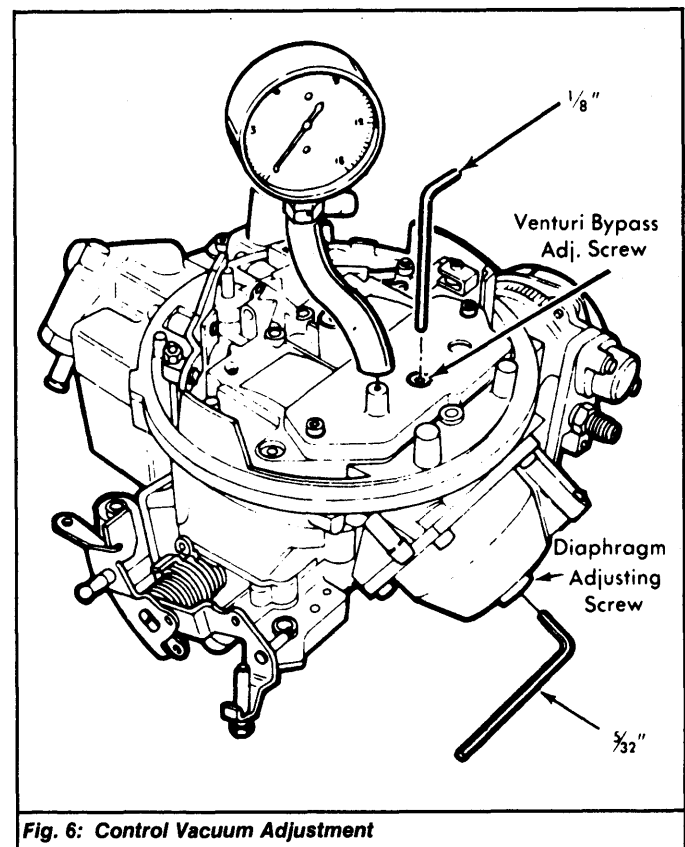

Fig. 6: Control Vacuum Adjustment
- 2) Connect vacuum gauge to vacuum tap on venturi valve cover. With engine at operating temperature, at curb idle, turn venturi by-pass adjusting screw (Allen screw) to reach specified vacuum setting. See Fig. 6.